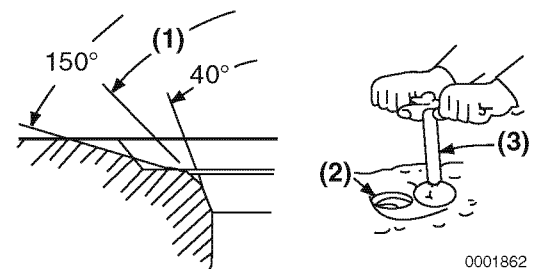

Figure 6-25
Light cutting can be performed by the use of a hand-operated cutter (Figure 6-25, (3)).
The valve seat diameter can be adjusted by top-grinding with a 150° stone to make the seat diameter smaller, and bottom-grinding using a 40° stone to make the seat diameter larger. Once the seat location has been corrected, grind and lap the seat angle (Figure 6-25, (1)) to specification. See *Cylinder Head* on page 6-4 for specifications.